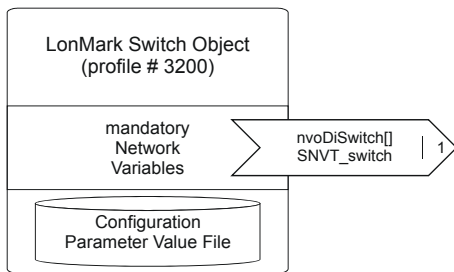

Fig. 7. Switch Object
- one switch object (#3200) (see Fig. 7)